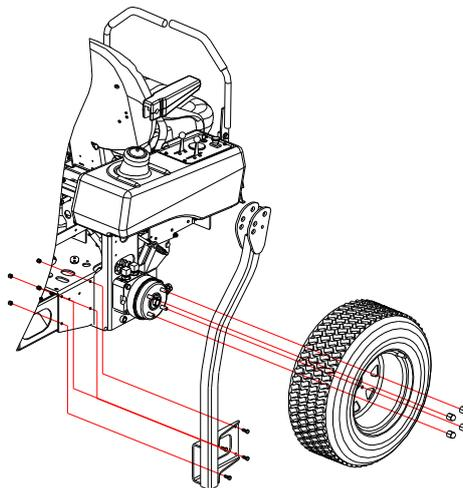

FIG 2
- b) Align lower roll bar tubes along wheel motor channels as show in Figure 2.
a) Install drive wheels. (See FIG 2). Secure using four nuts for each wheel. Torque to 125ft-lb (170N-m)